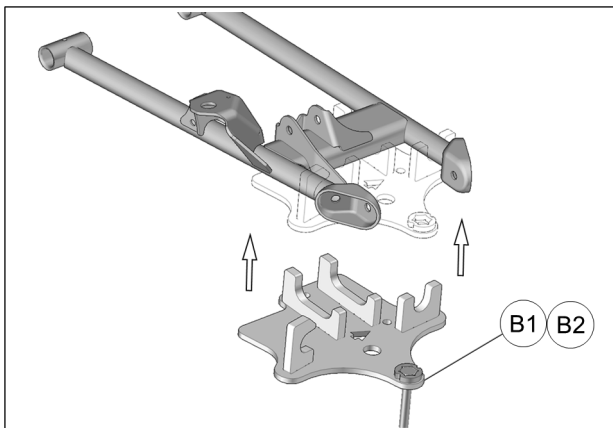

Fig. 6
5. Install anchor bracket (**B1-B2**) under the suspension arm. See Fig. 6